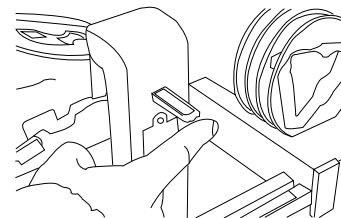

Fig. 9
5. Position the side measuring device (ruler) so that it touches the graduated disc, which is the reference required to mark the lateral or medial deviation of the cleat. (**Fig. 9**)